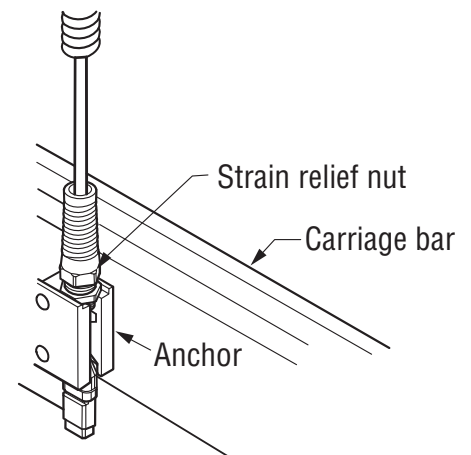

Figure 1-10 Anchoring power cord
8. Hold cord with connector in pocket, slide strain relief down with hex aligned to slot. Tighten nut by hand to lock wire in anchor. See Figure 1-10.